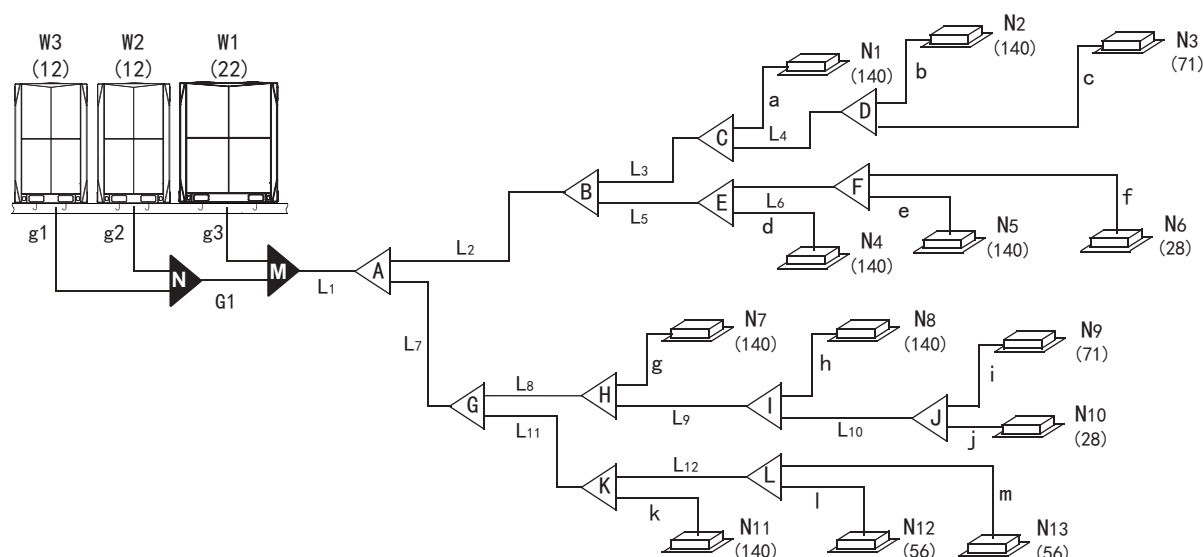

Fig.5-3
e.x.1: Refer to Fig.5-3, the capacity of downstream units to L4 is $140+71=211$, the gas pipe for L2 is Φ19.1, liquid pipe is Φ9.5.